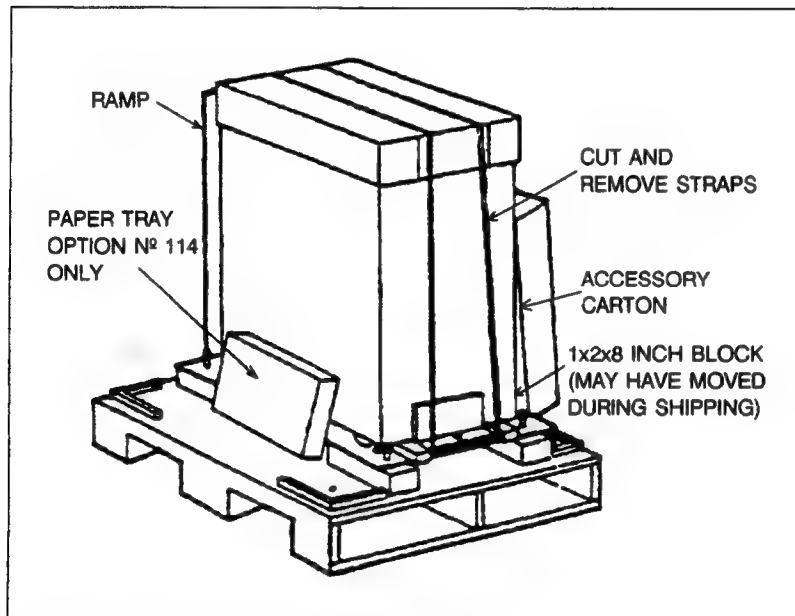

Figure 2-2. Removing the Restraining Straps
- b. Set aside any accessory cartons (these will be used later). Locate one wooden block (1 x 2 x 8 inches). This will be used in step d (see Figure 2-2).